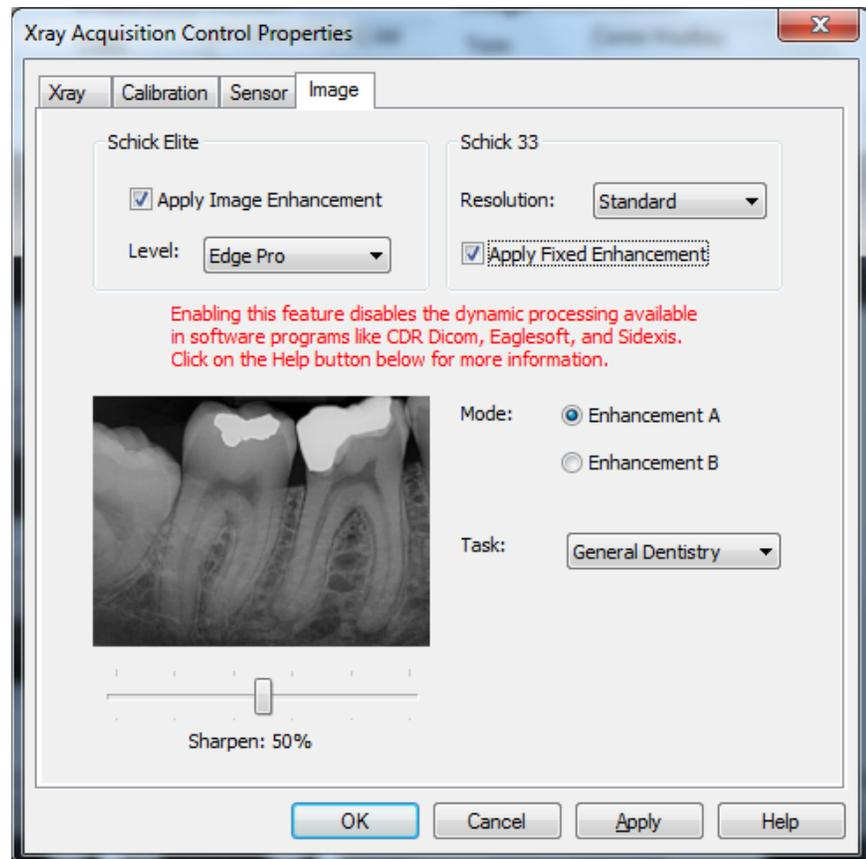

Figure 29. Selecting Fixed Enhancement in CDR Dicom
*(See Figure 29 for reference)*